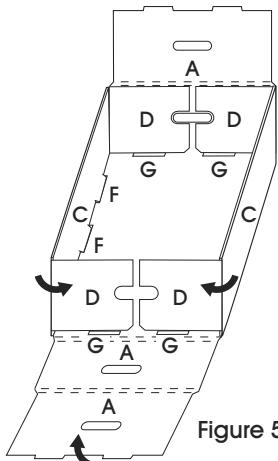

Figure 5
5. Repeat step 3 on the other side. (See Figure 5)